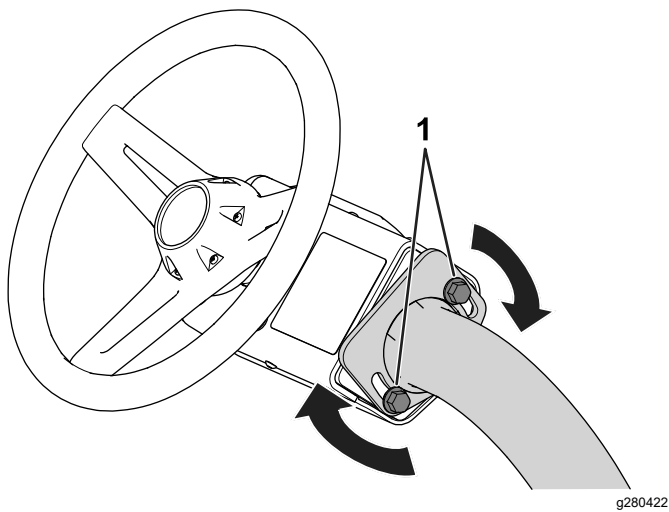

Figure 33
1. Loosen the bolts (Figure 33) that secure the steering-wheel assembly to the steering arm.
3. Tighten the bolts (Figure 33) to secure the steering-wheel assembly in your adjusted position.